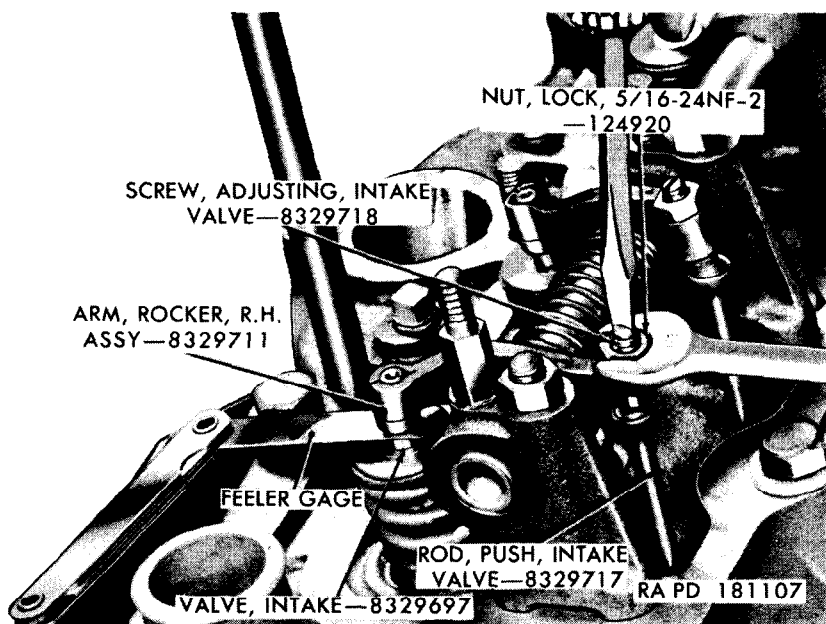

Figure 96. Adjusting intake valve clearance.
b. Adjust the clearance by loosening the intake valve adjusting screw lock nut (fig. 96) and turning the adjusting screw in or out to close or open the gap between the end of the intake valve and the rocker arm. Turn the screw clockwise to close the gap and counter-clockwise to open the gap. When the gap is adjusted so that a 0.018-